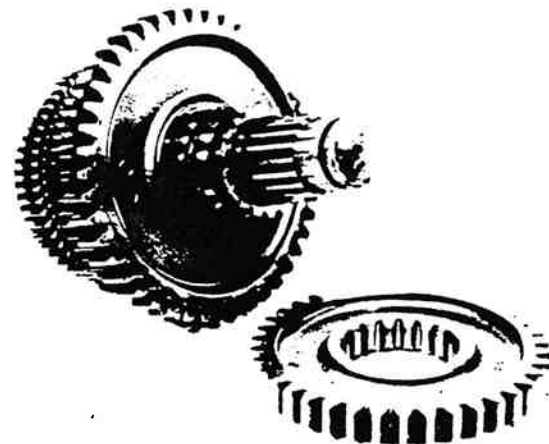

Figure 13-49. Removing Gear From Rear of Mainshaft.
3. Remove the reverse gear from mainshaft (figure 13-49).